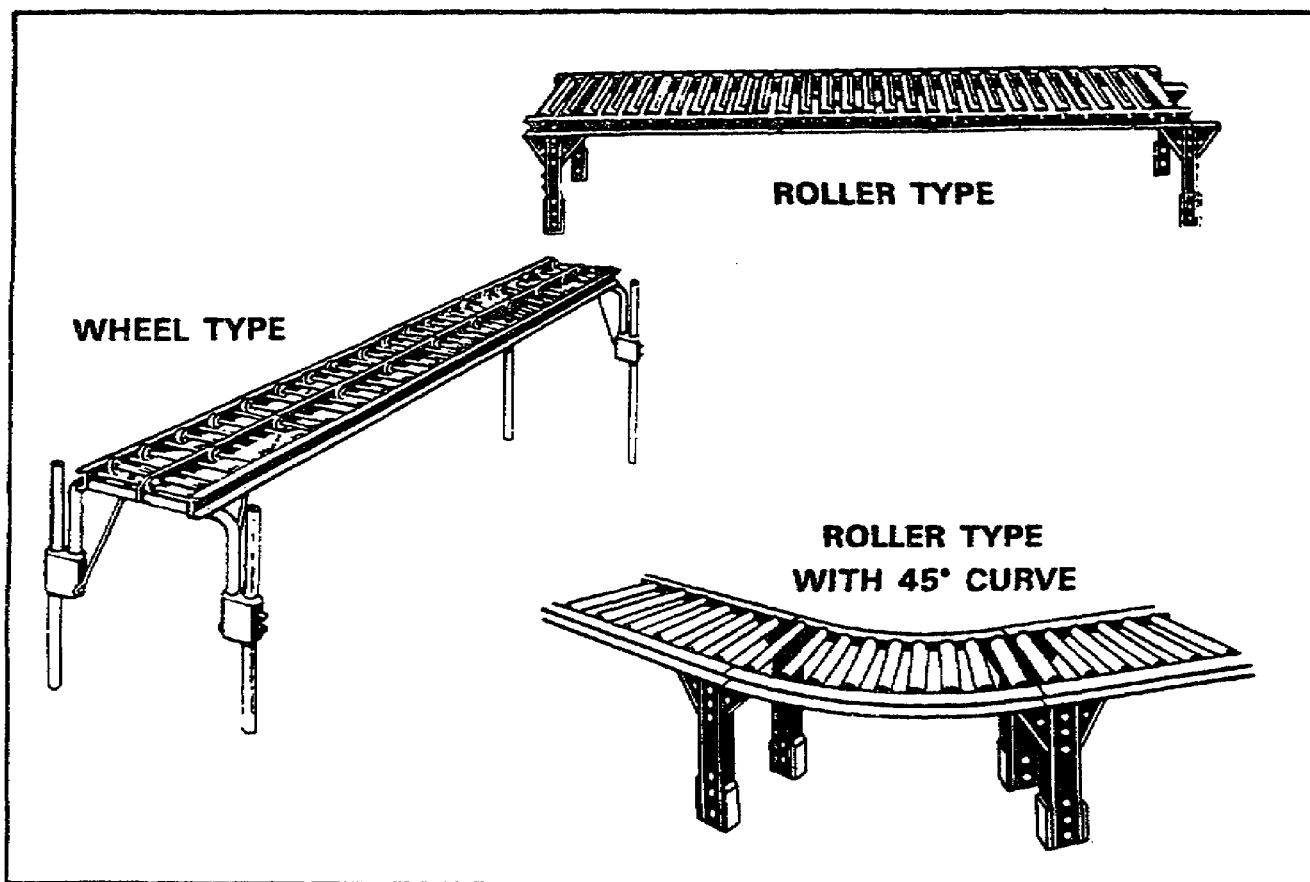

Figure 1-1. Conveyors.
**Conveyors.** Conveyors (figure 1-1) are metal platforms made in sections 12 or 16 inches wide and 10 feet long. They are fitted with evenly-spaced rollers or small, uniformly spaced wheels that turn freely in the frame of the platform. The conveyor is a simple device on which single ammunition boxes can be rolled easily from one point to another.